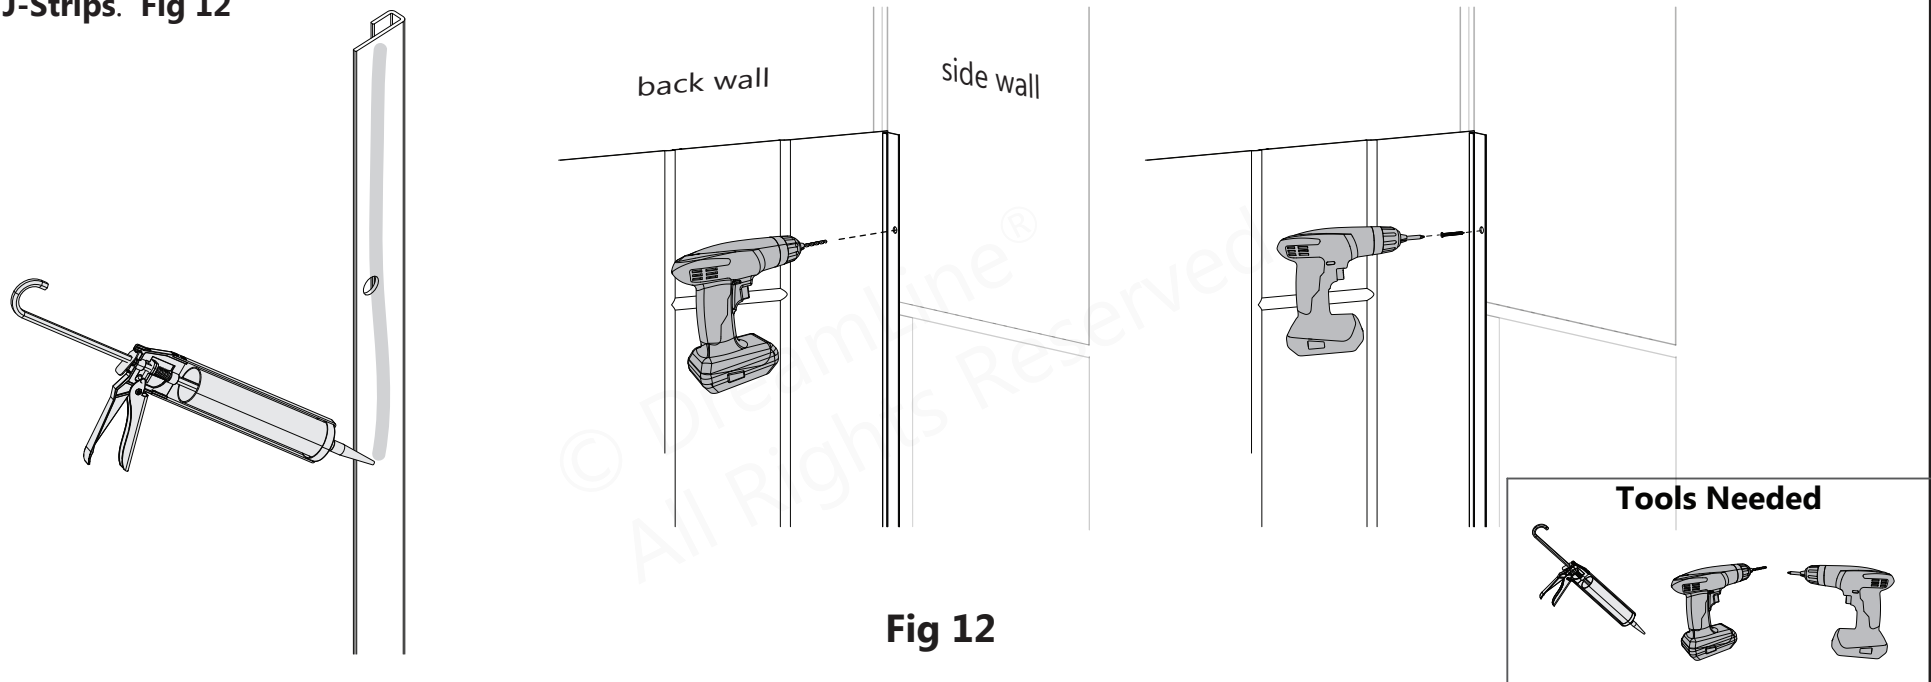

Fig 12
12. Apply clear silicone to the backs of both **J-Strips** and a thin bead of silicone into the corner of the opening. Press the J-Strips tight into the back corners. Wipe away any excess silicone with a clean rag. Use an $\text{Ø } 1/8''$ bit to drill into the wall through the holes in the J-Strips. Secure the **J-Strips** with the **ST 4.2 x 30 Countersunk Screws (#05)**. Be sure the screw heads are flush with the surface of the **J-Strips**. **Fig 12**